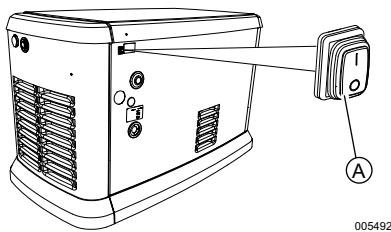

Figure 3-6. External Emergency Shutdown Switch (all models)
See *Figure 3-6*. An emergency shutdown switch (A) is located on the exterior of the generator back panel. This emergency shutdown switch shuts down generator and disables restarts.